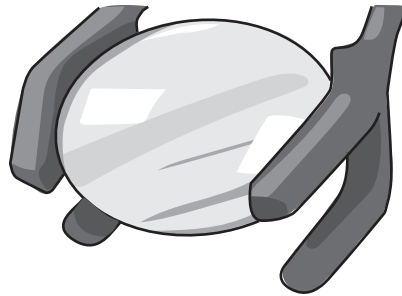

Fig. 2.1
1. The lens must be fixed securely in the jaws of a clamp, as shown in Fig. 2.1.